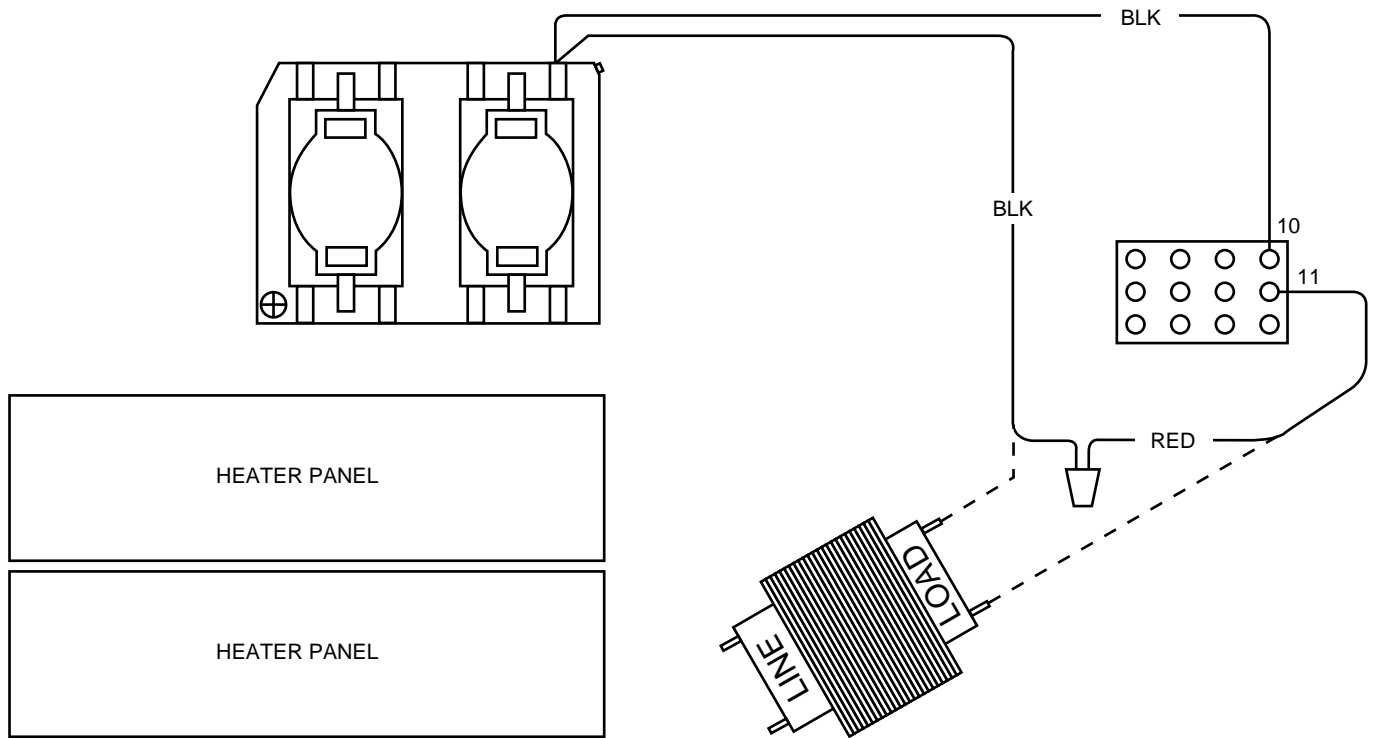

Fig. 5—Modifying Furnace Control Box Wiring
2. Remove black and red wire from low-voltage side of the transformer in the furnace control box. (See Fig. 5.)
4. Connect these 2 wires together with wire nut provided and secure with electrical tape. (See Fig. 5.)